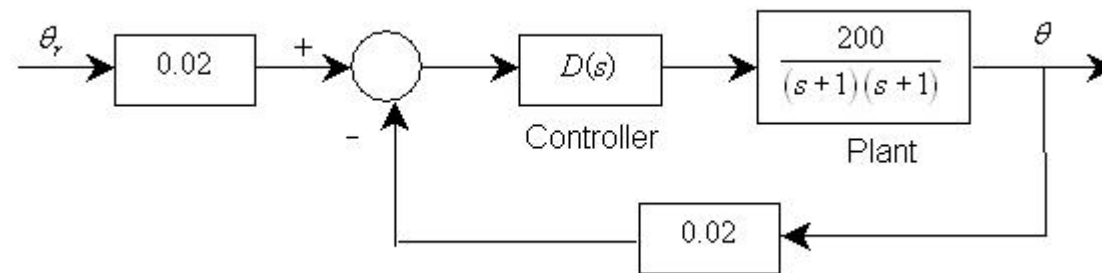

Fig. M3.17
This problem is to study the effects of Proportional (P), Proportional + Integral (PI), and Proportional + Derivative (PD) control schemes on the temperature control system. A temperature control system has the block diagram given in Fig.M3.17. The input signal is a voltage and represents the desired temperature θ_r . Simulate the control system using SIMULINK and find the steady-state error of the system when θ_r is a unit-step function and (i) $D(s) = 1$ (ii) $D(s) = 1 + \frac{0.1}{s}$ and (iii) $D(s) = 1 + 0.3s$.